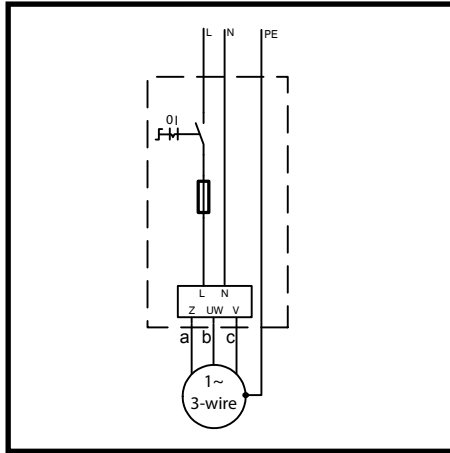

Fig.: 17
3. Raccordement Super Stainless 3-wire (Fig.: 17)